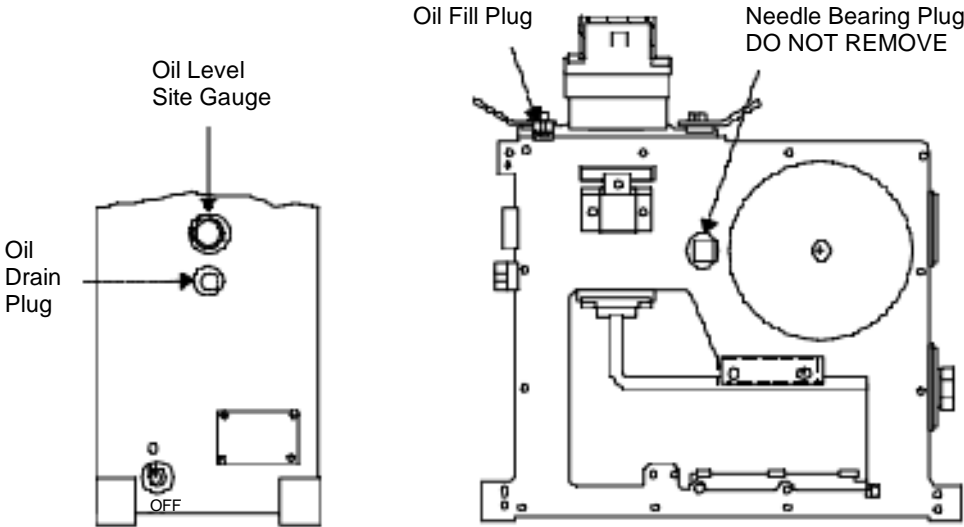

Figure: 5-3 X-Band Pedestal Oil Plugs
- (2) Place a container capable of holding 3 Liters of oil and a funnel with hose under the drain spout.
- (3) Remove fill plug from upper right of pedestal as shown in Figure: 5-3.
- (4) Remove drain plug from the middle of the pedestal front as shown in Figure: 5-3. Approximately 1.8 quarts, (1700 ML) of Oil will drain out for an X-Band and approximately 2.11 quarts, (2000 ML) of oil will drain out for an S-Band.
- (5) After all the oil is drained return the drain plugs to the fill hole and the drain hole.
- (6) Refill the oil as detailed in chapter 5.2.2 for X-Band and chapter 5.2.3 for an S-Band.